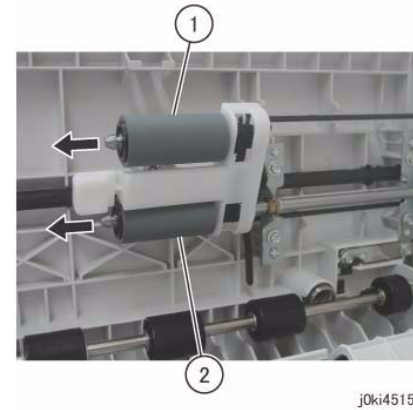

Figure 4 Remove the Nudger Roll and Feed Roll
7. Remove the Nudger Roll and the Feed Roll. (Figure 4)